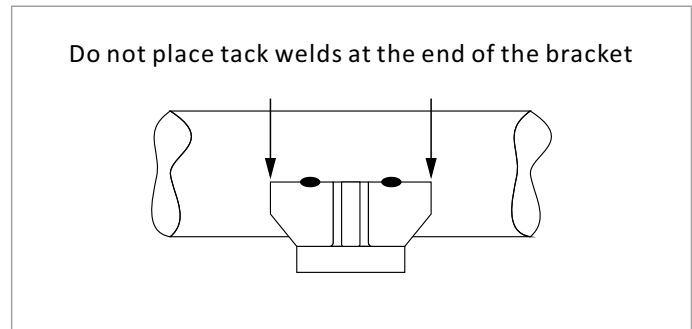

FIGURE 10
- » Do not locate tack welds at the ends of the bracket. Rather, they should be located toward the center of the brackets. (Figure 10)